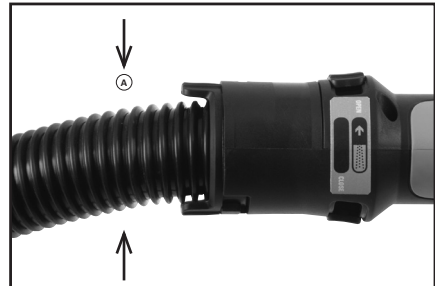

Fig. 3
- Select the $\varnothing 45$ mm end of the Extraction Hose. (**Fig. 3**) Note the Locking Ring (**A**)